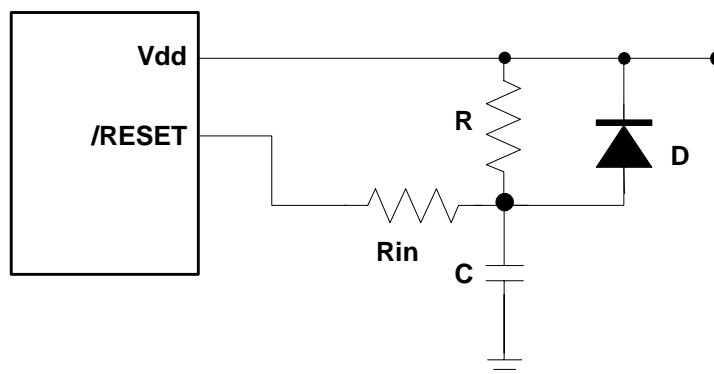

Figure. 6-15 External Power-Up Reset Circuit
The circuit shown in Figure. 6-15 implements an external RC to produce a reset pulse. The pulse width (time constant) should be kept long enough for V_{dd} to reached minimum operation voltage. This circuit is used when the power supply has slow rise time. Because the current leakage from the /RESET pin is $\pm 5\mu\text{A}$, it is recommended that R should not be greater than 40 K. In this way, the /RESET pin voltage is held below 0.2V. The diode (D) acts as a short circuit at the moment of power down.